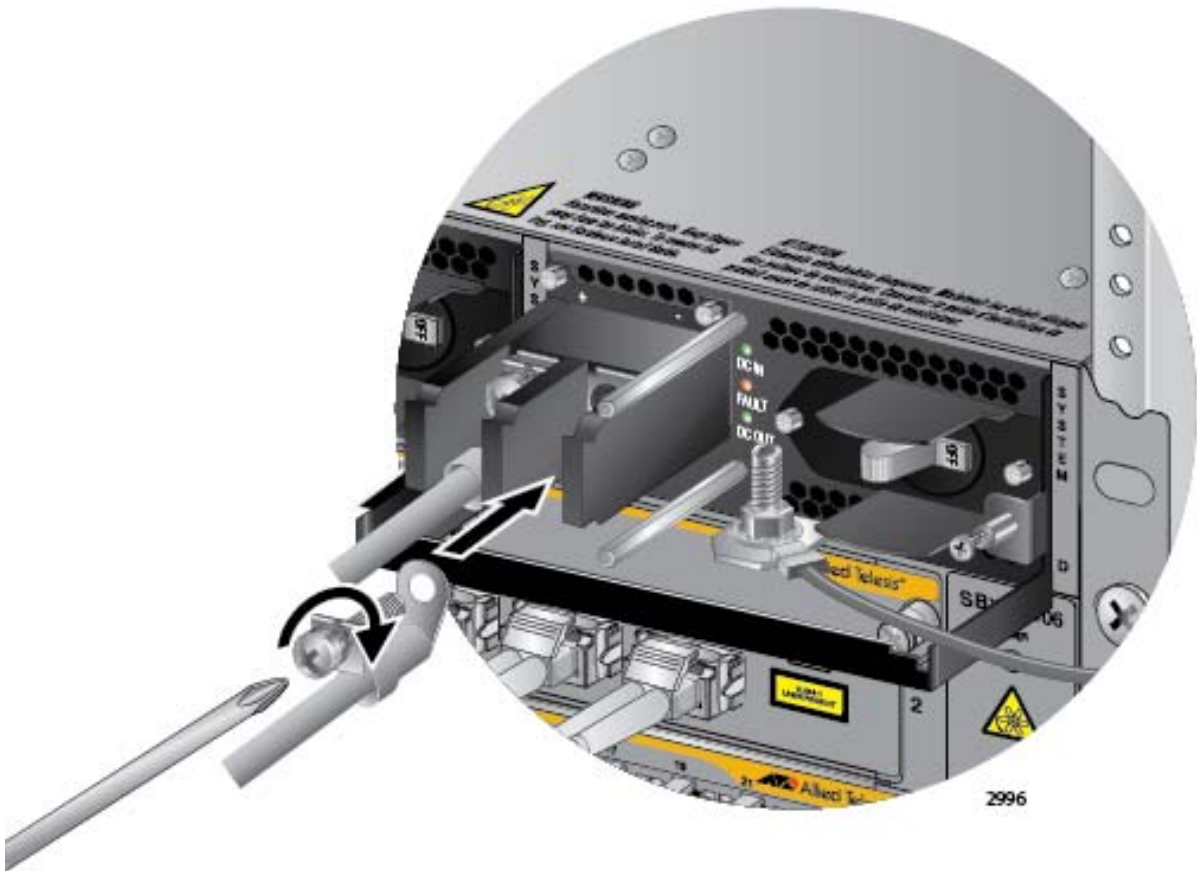

Figure 137. Connecting the Negative (-) Power Wire with a Right Angle Terminal
7. With a #3 Phillips-head screwdriver, connect the negative (-) power lead wire to the negative terminal on the power supply, with the remaining terminal screw removed in step 5. The negative terminal is on the right. Refer to Figure 137 on page 203.